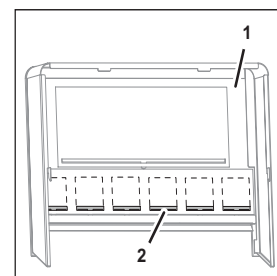

Fig. 37
1. Remove the respective product label (Fig. 37/2) from the promotional panel (Fig. 37/1).
2. Slide the new product label (Fig. 37/2) into the promotional panel (Fig. 37/1).